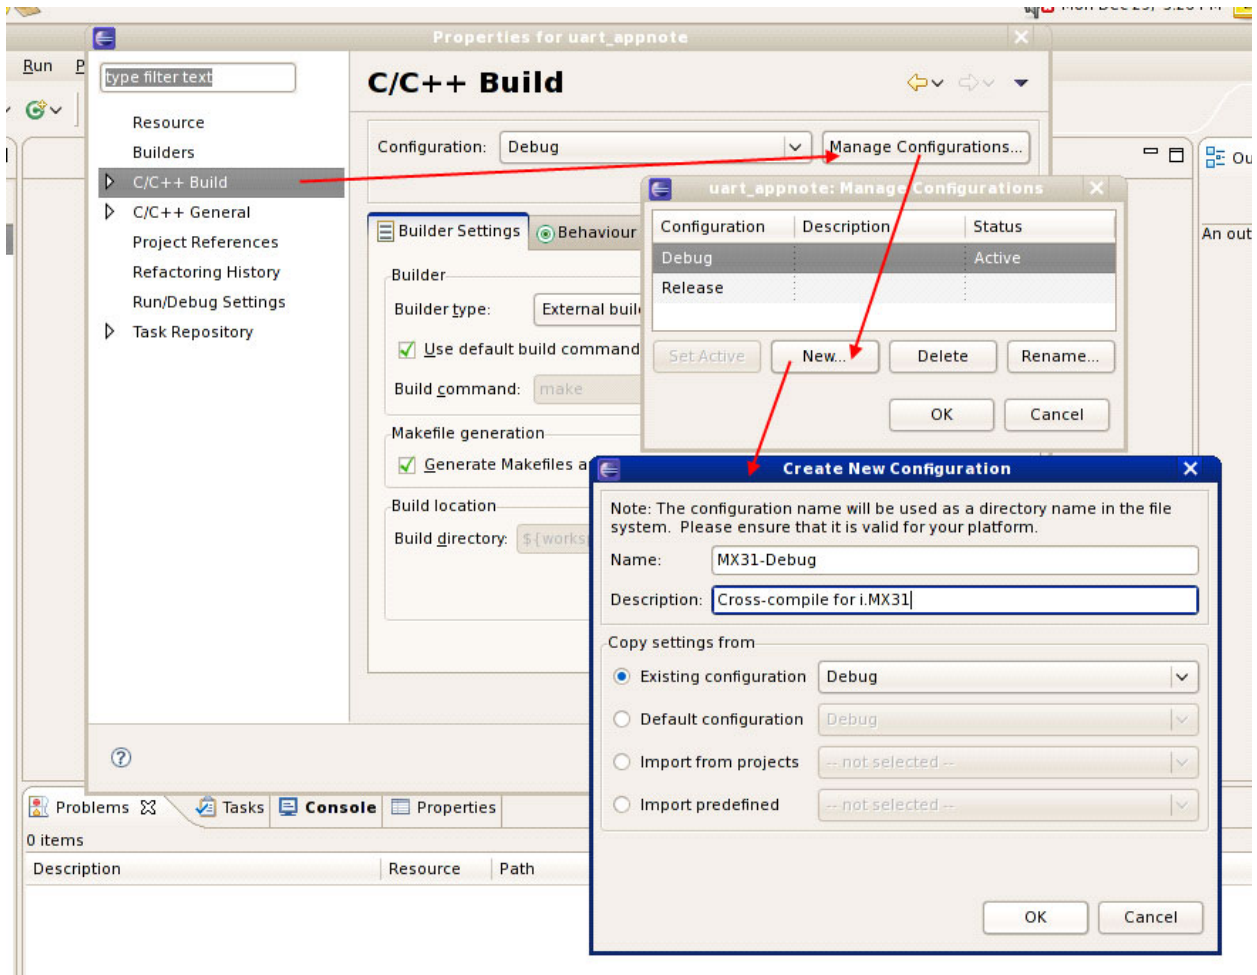

Figure 3. New Build Configuration
7. On the Properties window, click the C/C++ Build option that is located in the left side of pane. Click Manage Configurations and create a new build configuration as shown in Figure 3 with the following properties: